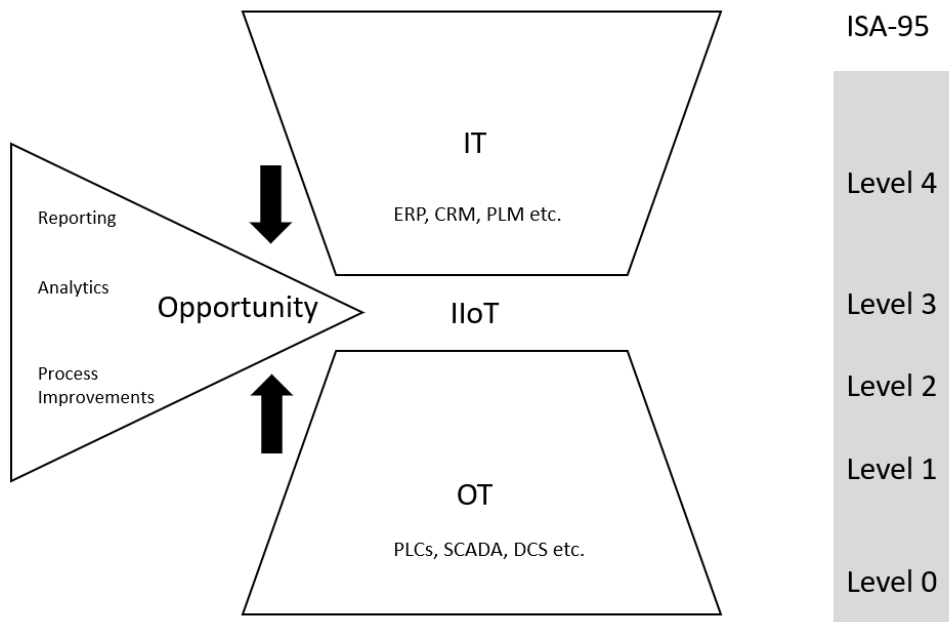

Figure 6.2 – The opportunity for optimization lies with IT/OT integration
*Figure 6.2* depicts a common beginning point for most IT/OT integrations for many of these initiatives and an efficiency gap, which is actually an opportunity. Organizations constantly include IT and OT data in their broad reports, which are rarely tailored for gaining insights valuable to day-to-day operations. Convergence value is driven by identifying and then addressing the efficiency gap. This has always been a helpful approach to thinking about convergence initiatives.